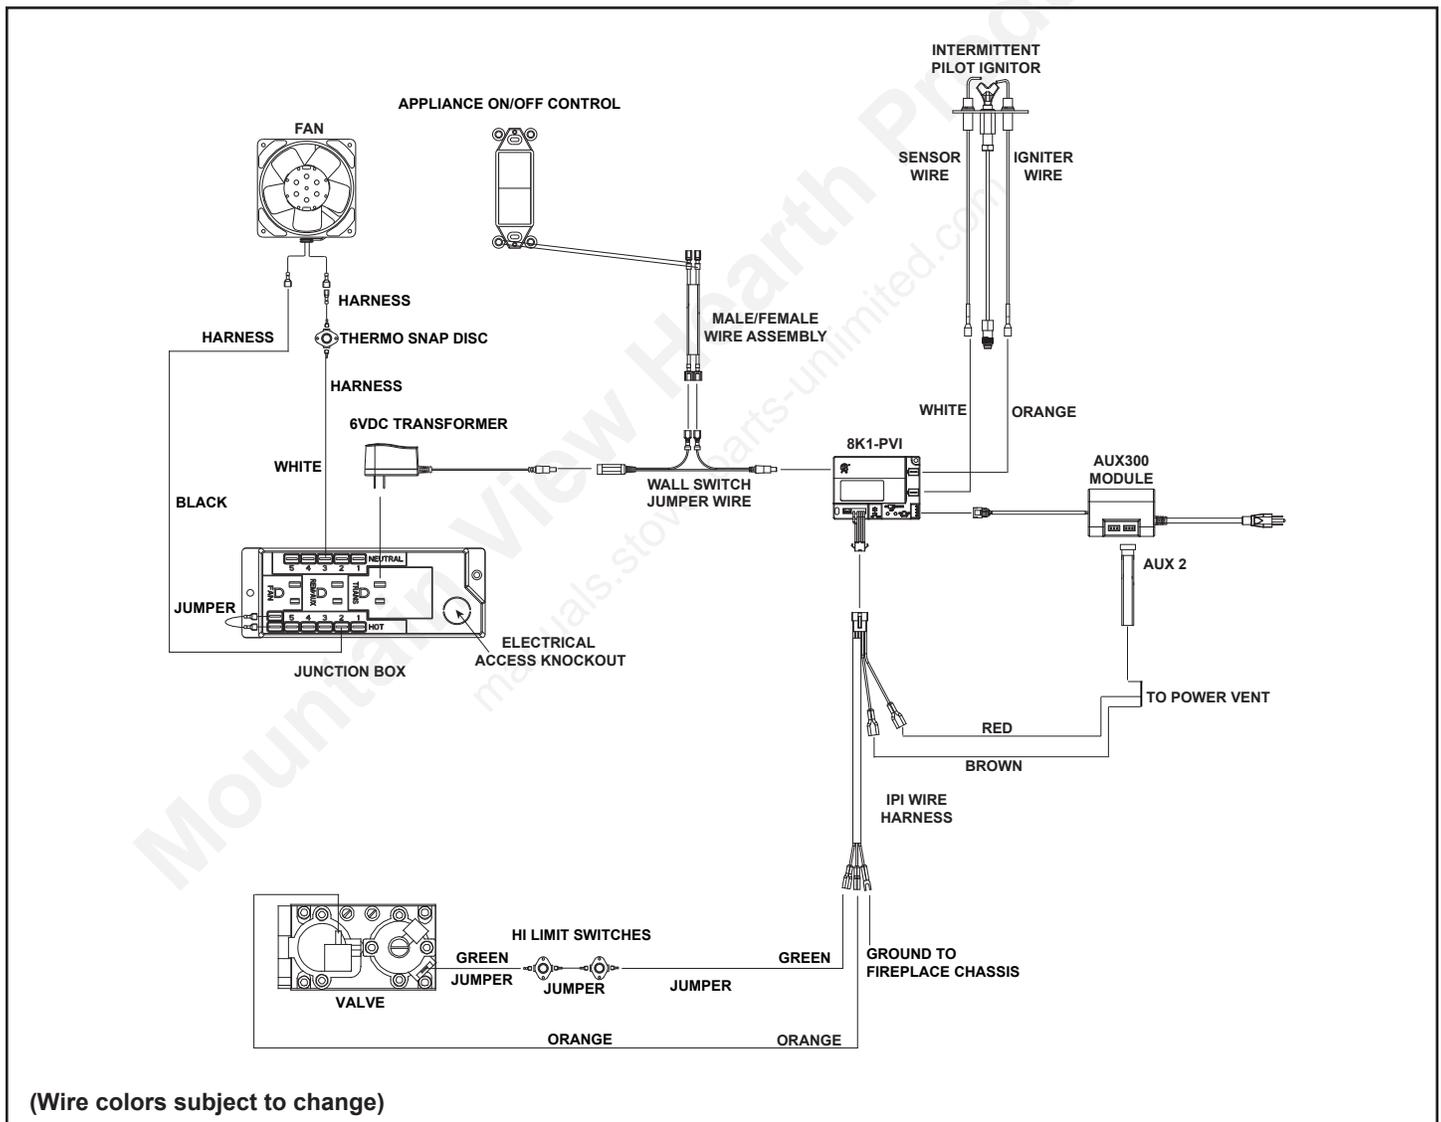

Figure 8.2 RED60 IntelliFire Plus Wiring Diagram
- Refer to Figure 8.2, IntelliFire Plus™ Pilot Ignition (IPI) Wiring Diagram.